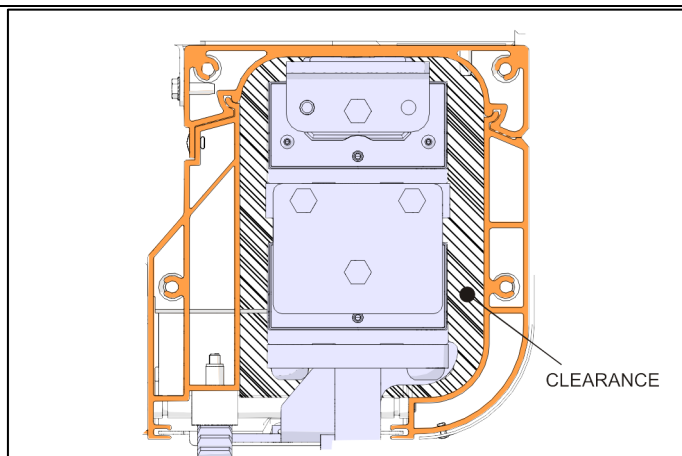

FIGURE 9: CLEARANCE AROUND THE RAIL, END VIEW
15. The rail housing interior dimensions provides enough clearance around the rail assembly to pull the room outwards. (Figure 9)